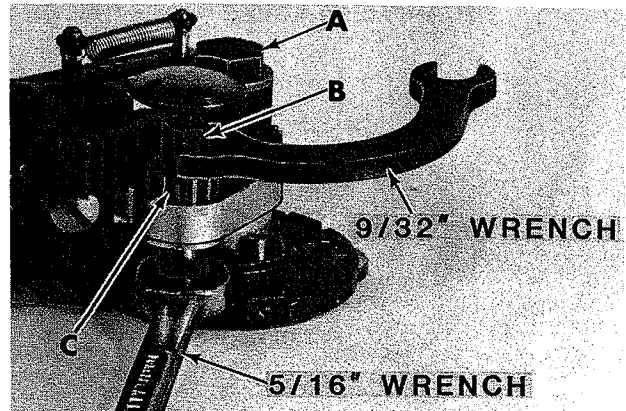

Fig. 42
Machine is in STOP POSITION. To replace the orienting pin, remove the button holder by loosening hex head bolt (A, Fig. 42). Now loosen and remove locknut (B) using a 9/32 inch open end wrench while holding the orienting base with a 5/16 inch wrench. Remove the orienting pin drive gear (C). The orienting pin can now be removed. Replace with the proper orienting pin by reversing procedure used to remove the other one.
Turn power "OFF". Machine is in STOP POSITION. Loosen locknut (B, Fig. 42) with a 9/32 inch open end wrench while holding the orienting pin base with a 5/16 inch wrench. Now rotate the base in the direction needed to align the button holes to the needle, when the button is in position to be stitched. Tighten locknut (B) and operate the machine under POWER to again check position of the button holes. Repeat this procedure until the button holes are in the correct position relative to the needle. Now, replace needle and operate the machine manually through a complete cycle (POWER "OFF") observing the needle as it penetrates each hole. Further adjustment of the orienting pin may be required.